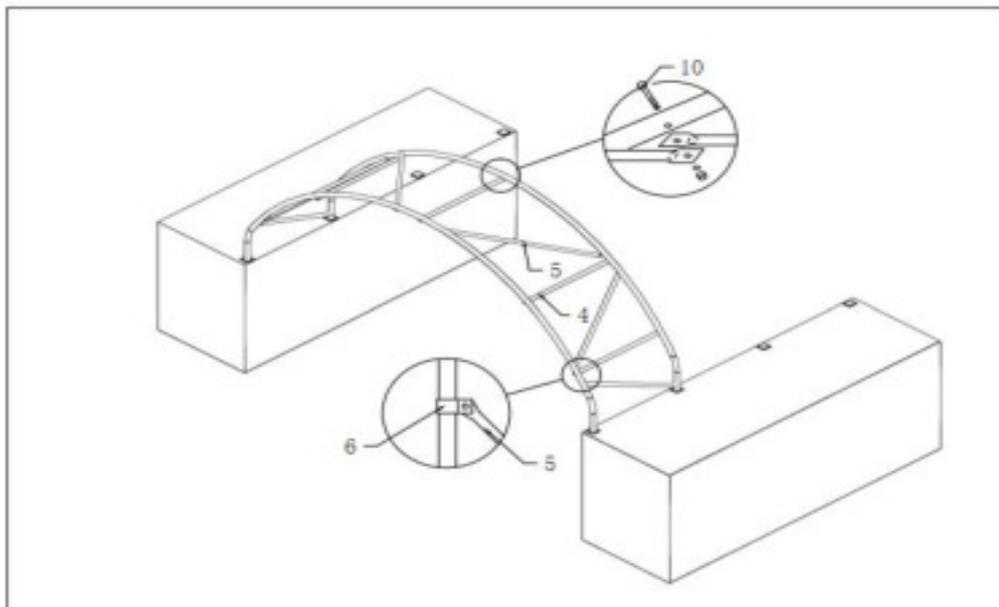

Figure 3
3. As the **Figure 3** Shown, when finishing installing the first two arches, connect the Connection purlins onto them by using screw M10x80 (part code 10) .There are 5 pieces of Connection purlins (part code 4) between two groups. Then install the third arch into base